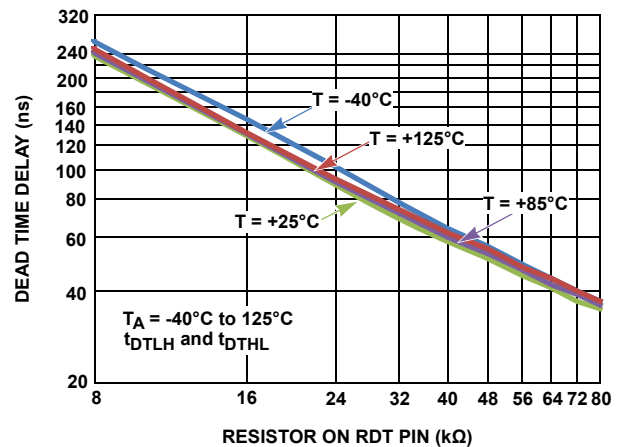

FIGURE 10. DEAD-TIME DELAY VS RDT RESISTOR
When the PWM input transitions high or low, it is necessary to ensure that both bridge FETs are not on at the same time to prevent shoot-through currents. The ISL78420 programmable timers delay the rising edge of the high-side (HO) and low-side (LO) gate drives so that both FETs are off before one of them is turned on. The dead-time delay on the rising edge of LO and HO is programmable with a single resistor from the RDT pin to VSS. The dead time is adjustable from 35ns (RRDT = 80kΩ) to 220ns (RRDT = 8kΩ). It is not recommended to use resistors beyond these values. The dead time is set equal on both falling edges of LO and HO. See "Timing Diagram" on page 6 for the definition of dead-time delay. See Figure 10 on page 7 for the programmed dead time vs resistor value.